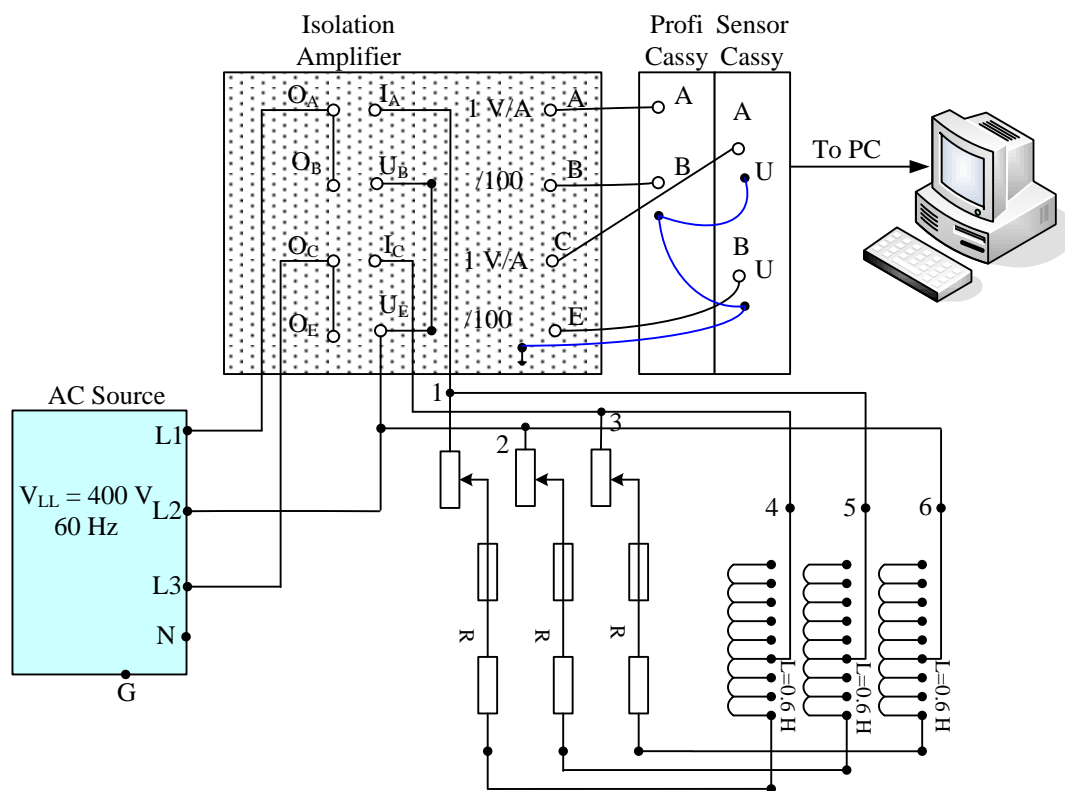

Figure 4 Δ -Connected Inductive Load
16. Modify the circuit setup as shown in Fig. 4 for the inductive load as Δ -connection, and then turn ON the power supply and repeat record the data (steps 9-12) as shown in Table 3.